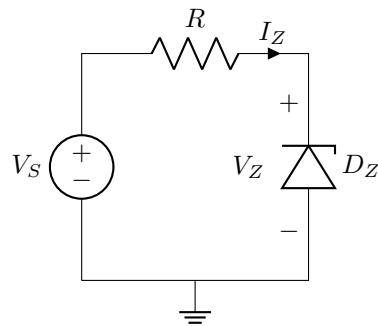

Figure 3: Zener diode characteristic measurement circuit. The Zener diode is reverse-biased with the cathode toward the positive supply.
Construct the circuit shown in Figure 3 using a Zener diode and a $100\ \Omega$ resistor. Pay careful attention to the polarity: for the Zener to operate in breakdown, its cathode (the marked end) must be connected toward the positive terminal of the supply through the resistor, and its anode must be connected to ground. This is the reverse of normal diode operation.
4. For the Zener circuit in Figure 3, assume $V_S = 10 \text{ V}$, $R = 100 \Omega$, and $V_Z = 5.1 \text{ V}$ (and assume this voltage remains constant in breakdown). Calculate (a) the current through the Zener diode, (b) the power dissipated by the Zener diode, and (c) determine whether this exceeds a 1 W power rating. Show all work.
5. Explain in your own words the difference between static (DC) resistance and dynamic (small-signal) resistance of a diode. Write the mathematical expression for calculating each type of resistance.